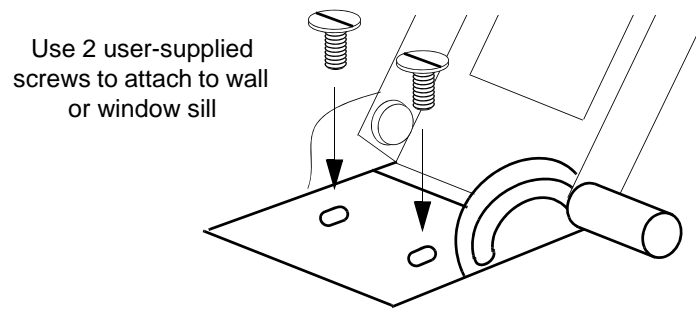

Figure 3-3. Attaching the Mechanical Window Antenna
1.	At the window chosen in Chapter 2, Engineering and Ordering, attach the base of the mechanical window antenna to the chosen location (sill, wall, etc.) using user-supplied screws (Figure 3-3).